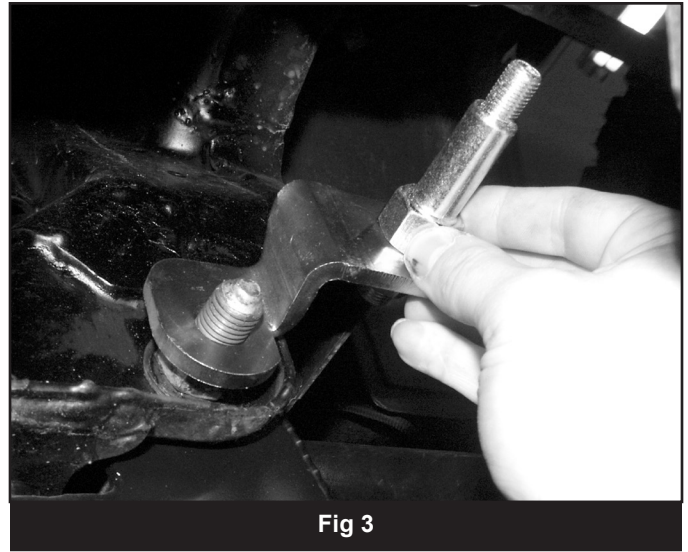

Fig 3
5. Install the bracket on the bolt so the tab goes to the outside and the shock studs points to the rear. (Fig 3) Fasten with the original nut/ washer and torque to 125 ft-lbs.